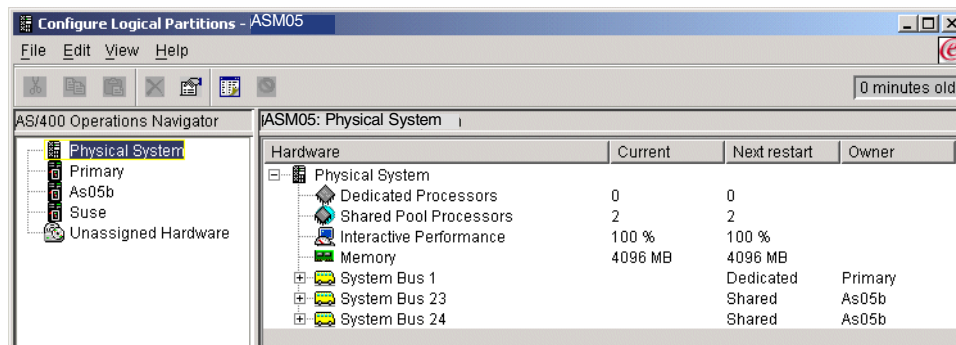

Figure 8-1 Configure Logical Partitions display
2. Right-click **Systems with Partitions** and select **Configure Partitions**. This opens the Configure Logical Partitions window as shown in Figure 8-1.
4. Right-click **Systems with Partitions** and select **Configure Partitions**. This opens the Configure Logical Partitions window as shown in Figure 8-1.